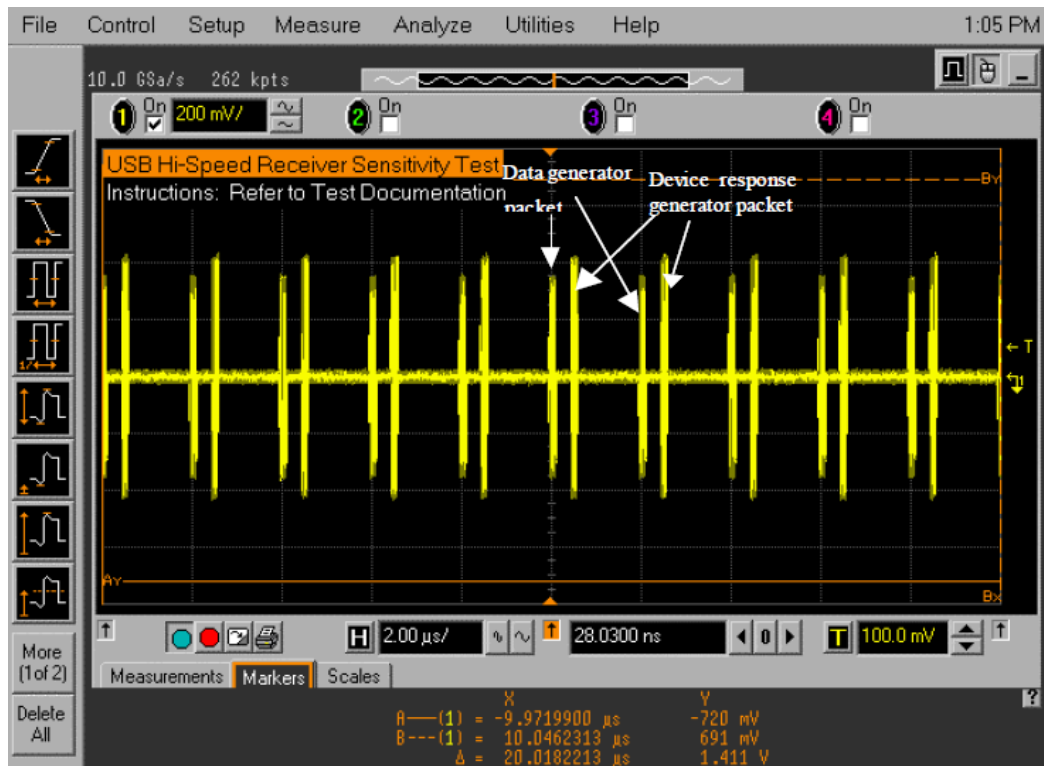

Figure 58. Receiver respond with NAK to IN from data generator
10. Verify that all packets from the data generator are **NAK**'d by the port under test as shown in Figure 58. Record the pass/fail in **EL_18**.